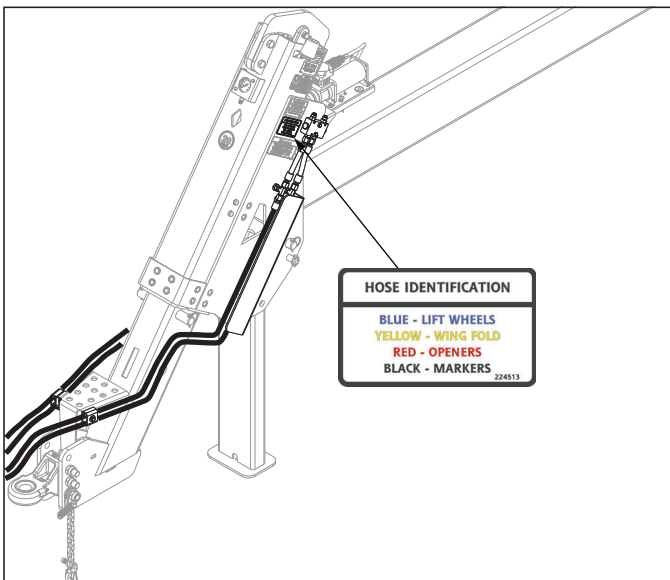

Figure 5-2: Hose Decal
1. The hydraulic hose ends are color coded to help identify and match the attaching hoses on the Grain Drill. An identification decal is placed on the front of the hitch to help identify the hoses *See Figure 5-2*.